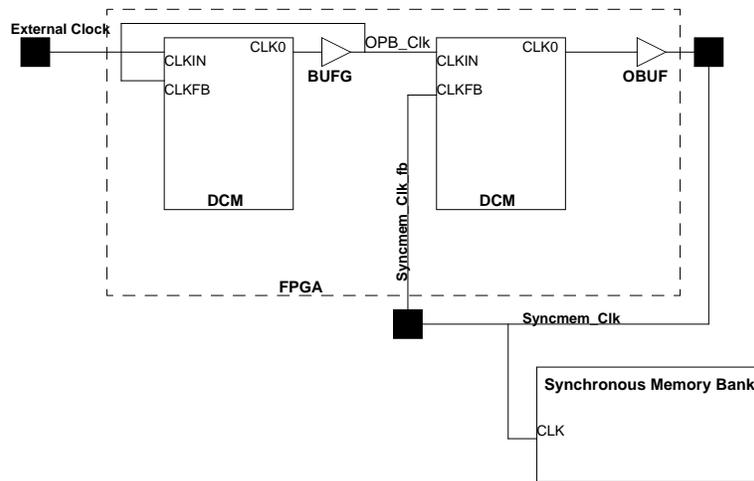

Figure 1: The clocking scheme required for external ZBT memory with clock feedback (Taken from Xilinx's OPB EMC datasheet).
2. The created project should include one dcm_0 DCM module already. By selecting IP Catalog tab from Project Information Area, add another instance of dcm_module. The two DCM modules will be used to create the clocking scheme shown in Figure 1. Add the following to the ports table for each of the DCM modules: CLKIN, CLKFB, RST, DSSEN, PSEN, CLK0, LOCKED. Set them all as internal in scope. The default setup should be fine.